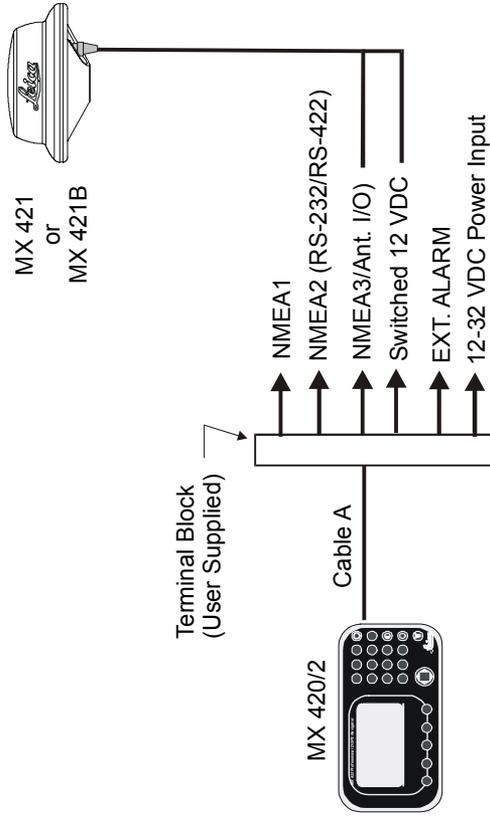

Figure 4.1 MX420/2 Basic System Configuration
A. Power wire colors are red (+) and black (-). Refer to Figure 4.1 for wiring hookup. Even though the navigator has a reverse polarity protection device, we recommend that the installer observe proper polarity before hooking up the power leads. MX Marine also recommends using a 2 amp. fuse in line with the red wire as close to the battery as possible. This not only protects the navigator but also the cabling.